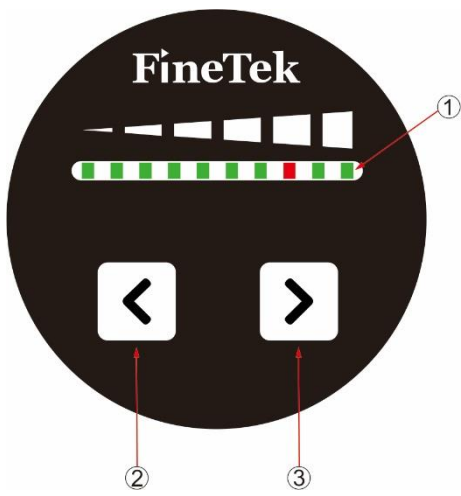
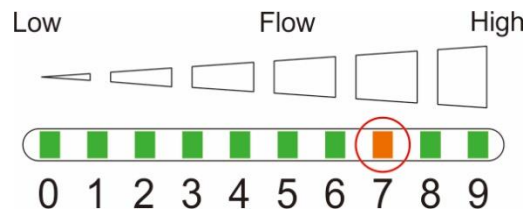
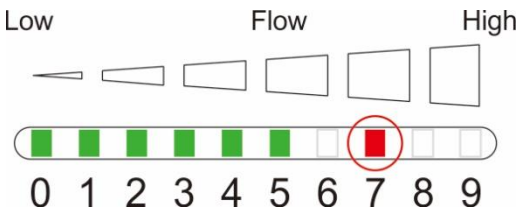
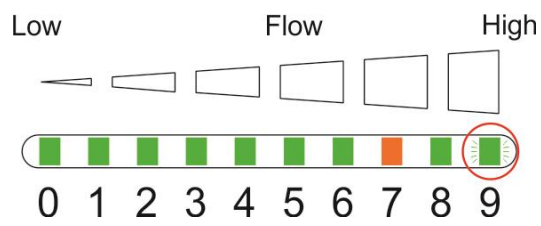

Figure 1
Figure 2
Figure 3
Figure 4
①	<div>1. Ten bicolor LEDs.</div> <div>2. Green LED On: This LED indicates a fast or slow flow and displays the current flow rate (Figure 1).</div> <div>3. Orange LED On: (Figure 2)<ul style="list-style-type: none">● The flow rate is at the alarm setting point.● When the switch output functions of the relay (NC/NO) and NPN/PNP (Enable/Disable) switch alternately.</div> <div>4. Red LED On: The flow rate is lower than the alarm setting; output action (Figure 3)</div> <div>5. The green LED 9 flashes to indicate that the flow rate exceeds the current maximum flow rate setting (Figure 4).</div> <div>6. The green LED 0 flashes to indicate that the flow rate is lower than the current minimum flow rate setting (Figure 5).</div>
②	Left arrow key (for setting)
③	Right arrow key (for setting)